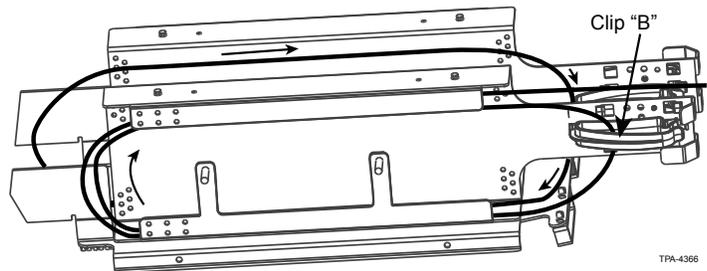

Figure 9
**NOTE:** A loop of fibre slack can be stored in the side storage areas with the loop routed respectively for each side as shown. The loop is limited at the top by the plastic clip (“B”) (Figure 9). Secure the slack loop with hook-and-loop straps as needed for fibre management.